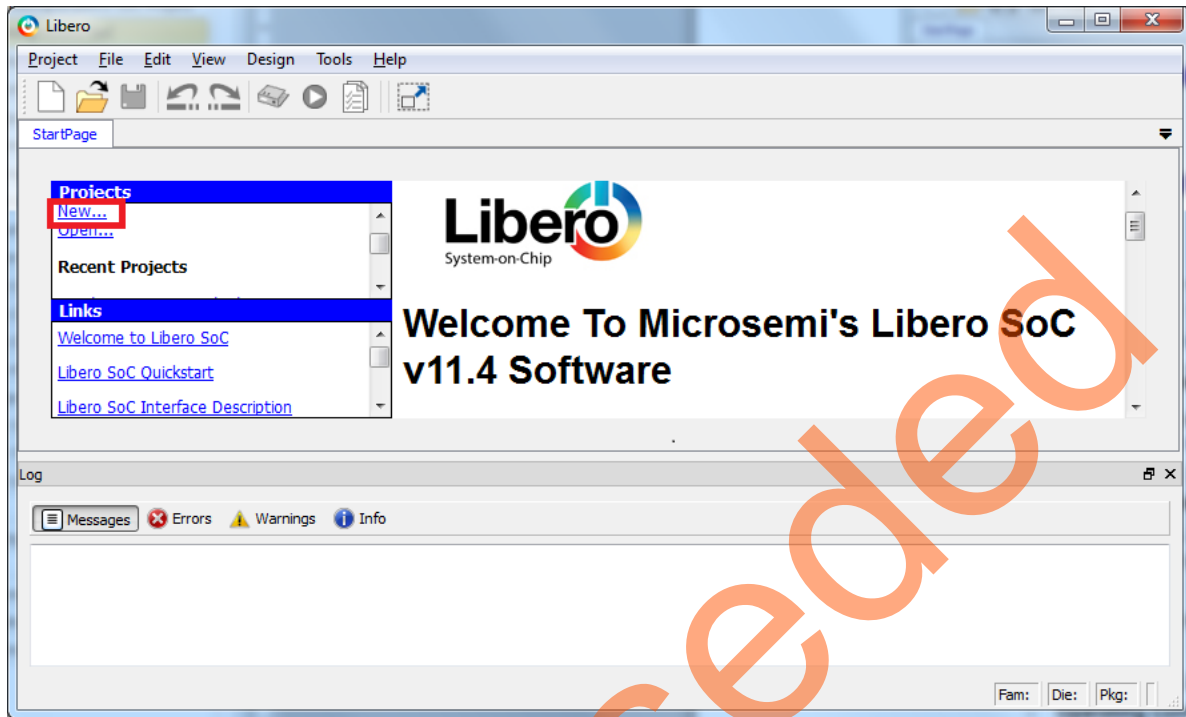

Figure 3 • Libero SoC Project Manager
- Select **New** on the **Start Page** tab as shown in Figure 3 on page 7.